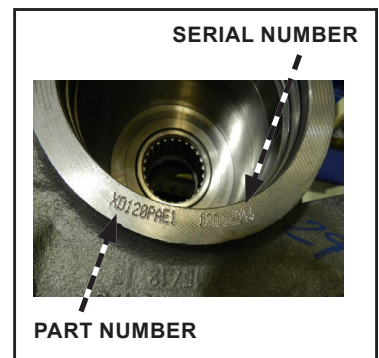

Figure 2 – Style 2
*Style 2:* This style will also have the serial number and part number engraved on one line with a space between the part number and serial number. The only difference is the amount of machined surface given for the engraving. The numbers should be engraved on more of a curve due to the lack of space provided. See *Figure 2*.